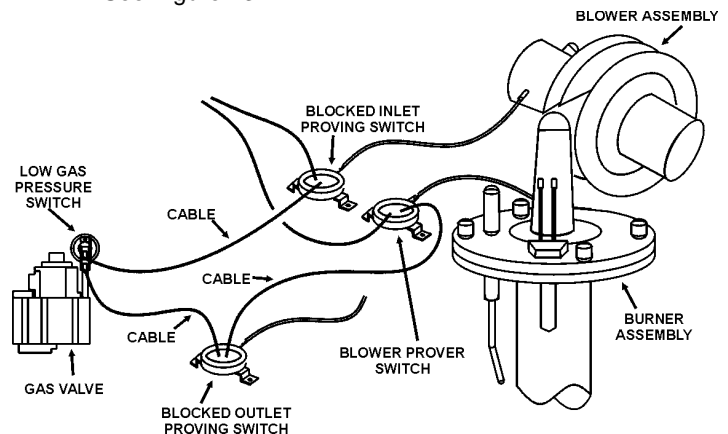

FIGURE 13.
to close. The pressure switch is connected to the burner tap by a piece of tygon tubing. This tubing must be connected in order for the switch to change the electrical contacts. The controller requires that the electrical contacts on this air flow switch be open before it will allow the blower to come on. See Figure 13.
The Blocked Outlet Prover Switch is set up to shut the unit off when a build-up of positive pressure in the exhaust vent pipe occurs. This switch is a positive pressure switch that requires an increase in pressure to change the electrical contacts from normally closed to open. When this switch prevents the unit from igniting, most likely the exhaust is blocked by some means. Check to see if the condensate is allowed to flow freely from the exhaust elbow and for obstructions in the exhaust venting and exhaust vent terminal. See Figure 13.
The Blocked Inlet Prover Switch is set up to shut the unit off when a build-up of negative pressure in the intake vent pipe occurs. This switch is a negative pressure switch that requires an increase in negative pressure to change the electrical contacts from normally closed to open. The switch is connected to the pressure tap on the flange connected to the inlet of the blower. When this switch prevents the unit from igniting, most likely the intake is blocked by some means. Check to see if there is no more than eighty (80) equivalent feet (24.8m) of four inch PVC vent pipe on the intake. Also verify that the intake and intake vent terminal is free of obstructions that may prevent air from entering the unit. See Figure 13.
The Low Gas Switch (LGS) is a single-pole, normally open pressure switch that will close its contacts when a rising pressure of 5.0 in. W.C. (1.25Kpa) is encountered. The contacts will open when the pressure falls below the fixed set point of 5.0 in. W.C. (1.25Kpa) The LGS monitors the gas supply pressure to the heater. If the gas supply falls below 5.0 in. W.C. (1.25Kpa), the main burner is extinguished (if heater is running) or the heater will not start up. *NOTE: LOW GAS IS LOCATED ON INLET SIDE OF GAS VALVE.* See Figure 13.